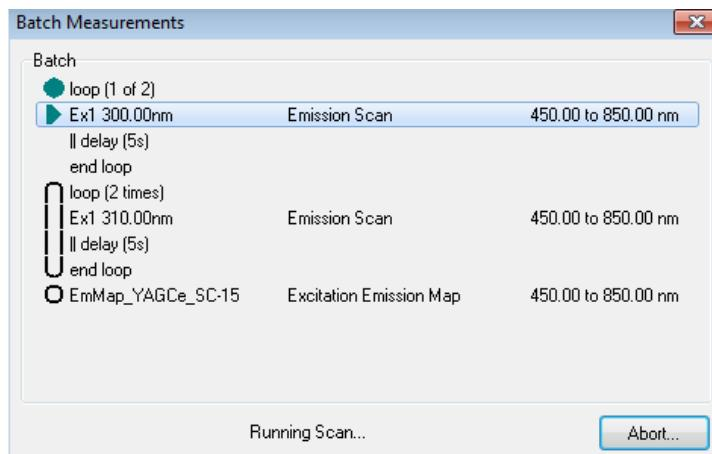

Figure 7-2: Batch Measurement progress window.
- 17-3** Press Run to start Batch measurements. The Batch Progress window (Figure 7-2) will appear and the currently performed stage of measurements will be indicated by green triangle. Every measurement will appear in a separate plot window.